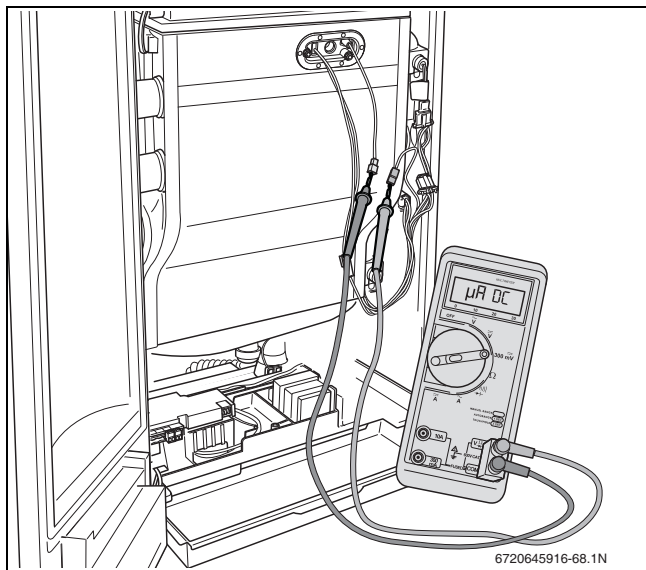

Fig. 73 Measuring the ionization current
- ▶ Connect the multi meter in series (→ fig. 73). Select the $\mu\text{A DC}$ range on the multi meter. The multi meter must have a resolution of at least $1 \mu\text{A}$.